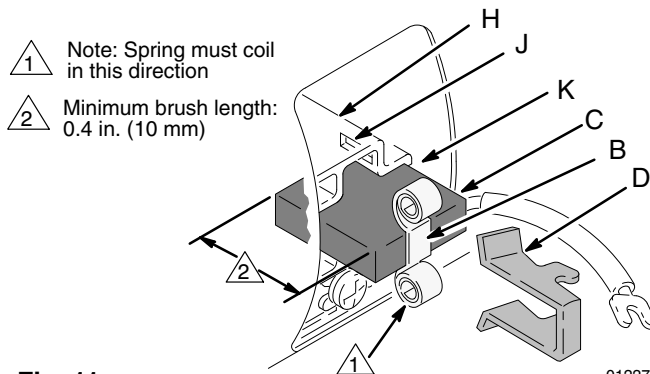

Fig. 11
5. Install the new brush (C) so its lead is in the long slot (K) of the holder (H). Slide the terminal (E) under the terminal screw (F) washer. Make sure the motor lead terminal (G) is still connected at the screw. Tighten the screw. See Fig 11.
6. Place the spring (B) on the brush (C) as shown in Fig 11.
7. Push in and hook the spring clip (D). See Fig 11.